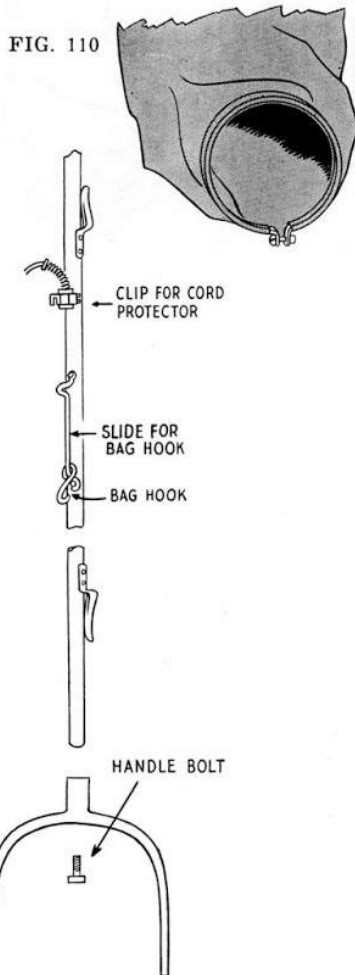

FIG. 111—One type of wood handle assembly
1. To remove **handle**: Figure 111.